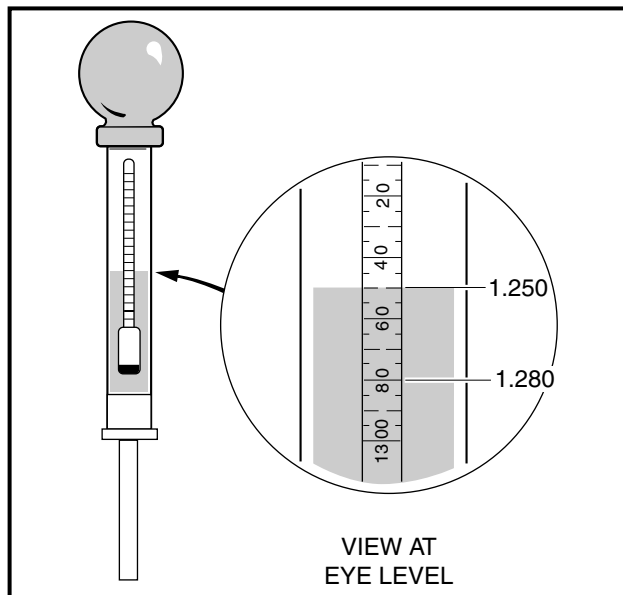

Figure 11-23 Hydrometer Test
A hydrometer (CCI P/N 1011478) measures the specific gravity. The higher the specific gravity, the higher the state of charge of the battery. A fully charged battery should read between 1.250 and 1.280 at 80 °F (27 °C). Never add acid to the battery to obtain a higher specific gravity (**Figure 11-23, Page 11-23**).
6. Hold the hydrometer vertically, ensuring that the float is not contacting the sides of the glass tube. Hold the hydrometer at eye level and read the scale at the level of electrolyte (**Figure 11-23, Page 11-23**).